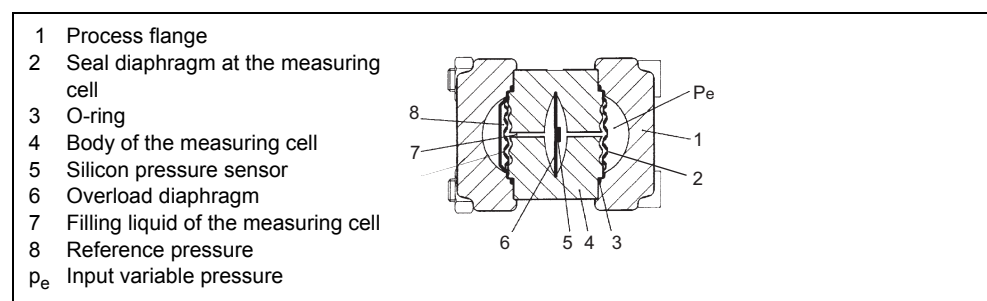

Figure 9 Measuring cell for absolute pressure, functional diagram
The absolute pressure is transmitted via the seal diaphragm (6, Figure 9, pg. 19) and the filling liquid (7) to the silicon pressure sensor (3). On exceeding the measuring limits, the overload diaphragm (5) is deflected until the seal diaphragm (6) comes into contact with the body of the measuring cell (4) and protects the silicon pressure sensor (3) against overloading. The pressure difference between the input pressure (p_e) and the reference pressure (8) on the low pressure side of the measuring cell flexes the measuring diaphragm. Four piezo-resistors in bridge circuit doped in the measuring diaphragm change their resistance as a result. The change in resistance causes a bridge output voltage proportional to the absolute pressure.